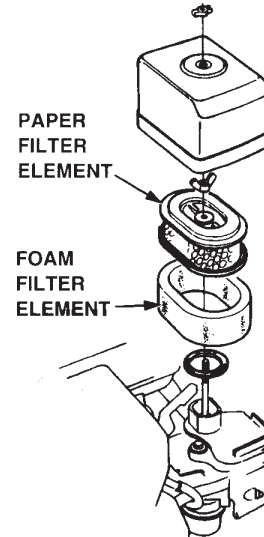

**Figure 17. Engine Oil Plug**
3. When changing the engine oil, the old oil can be drained by removing the oil filler cap, and unscrewing the engine oil drain plug located at the base of the engine (Figure 17).